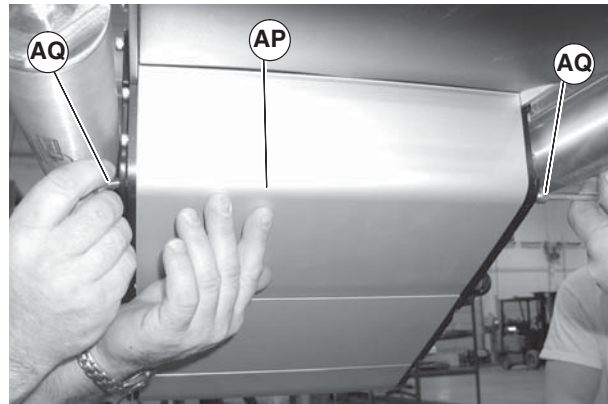

Figure 46
2. Temporarily support idler guard assembly (Figure 46, item AP). Remove screws (AQ).